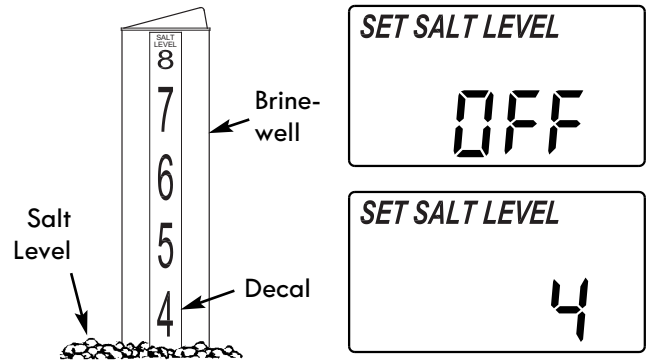

Figure 24
2. The yellow salt level decal, on the brinewell inside the tank, has numbers from 0 to 8 (see Fig. 24). Observe the highest number the leveled salt is at, or closest to.